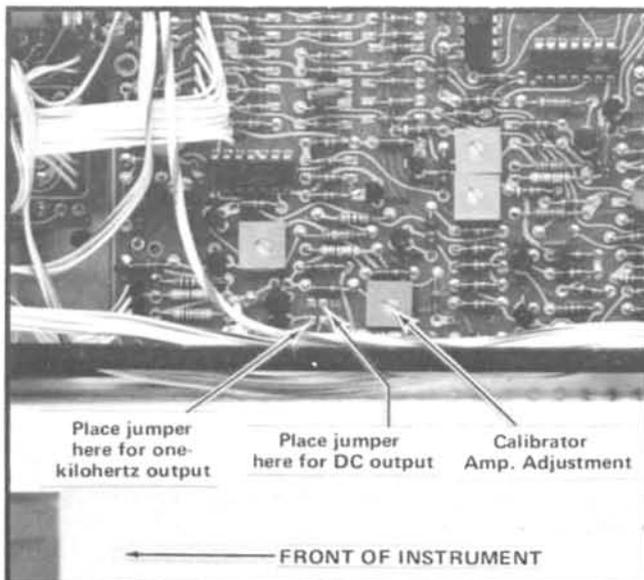

Fig. 2-8. Location of Calibrator adjustments (Cal-Storage board).
- Change jumper P1066 (see Fig. 2-8) to the DC position.
- ADJUST**—4 Volts adjustment R1077 (see Fig. 2-8) for a meter reading of exactly 4 volts.
- Change jumper P1066 (see Fig. 2-8) to the AC position.